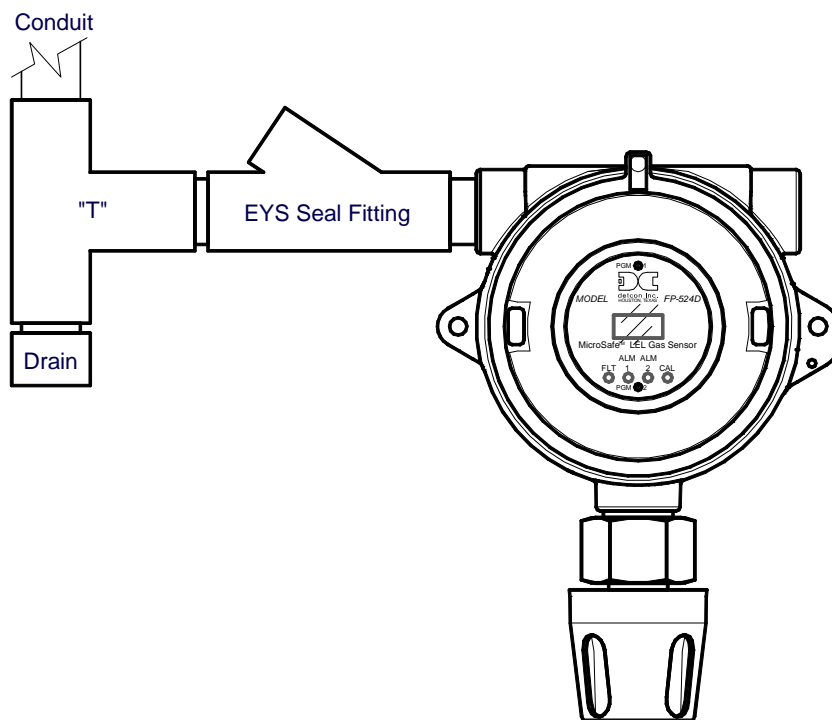
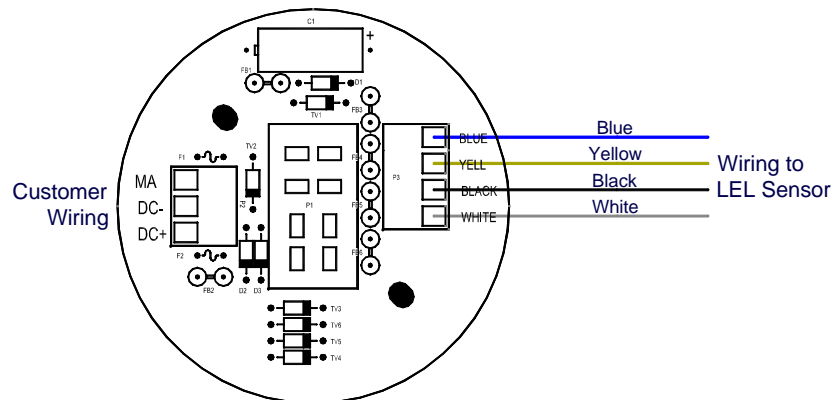

Figure 10 Typical Installation
Figure 11 Sensor Connector PCB
NOTE: In all installations the gas sensor should point straight down (refer to Figure 10). Improper sensor orientation may result in false readings and permanent sensor damage.
Proper electrical installation of the gas sensor is critical for conformance to Electrical Codes and to avoid damage due to water leakage. Refer to Figure 10 and Figure 11 for proper electrical installation.
NOTE: If a conduit run exits the secondary port, repeat the installation technique shown in Figure 10.
In Figure 10, the drain allows H₂O condensation inside the conduit run to safely drain away from the sensor assembly. The electrical seal fitting is required to meet the National Electrical Code per NEC Article 500-3d (or Canadian Electrical Code Handbook Part 1 Section 18-154). Requirements for locations of electrical seals are covered under NEC Article 501-5. Electrical seals also act as a secondary seal to prevent water from entering the wiring terminal enclosure. However, they are not designed to provide an absolute watertight seal, especially when used in the vertical orientation.
- Observing correct polarity, terminate the 3-conductor 4-20mA field wiring (DC+, DC-, and MA) to the sensor assembly wiring in accordance with the detail shown in Figure 11.